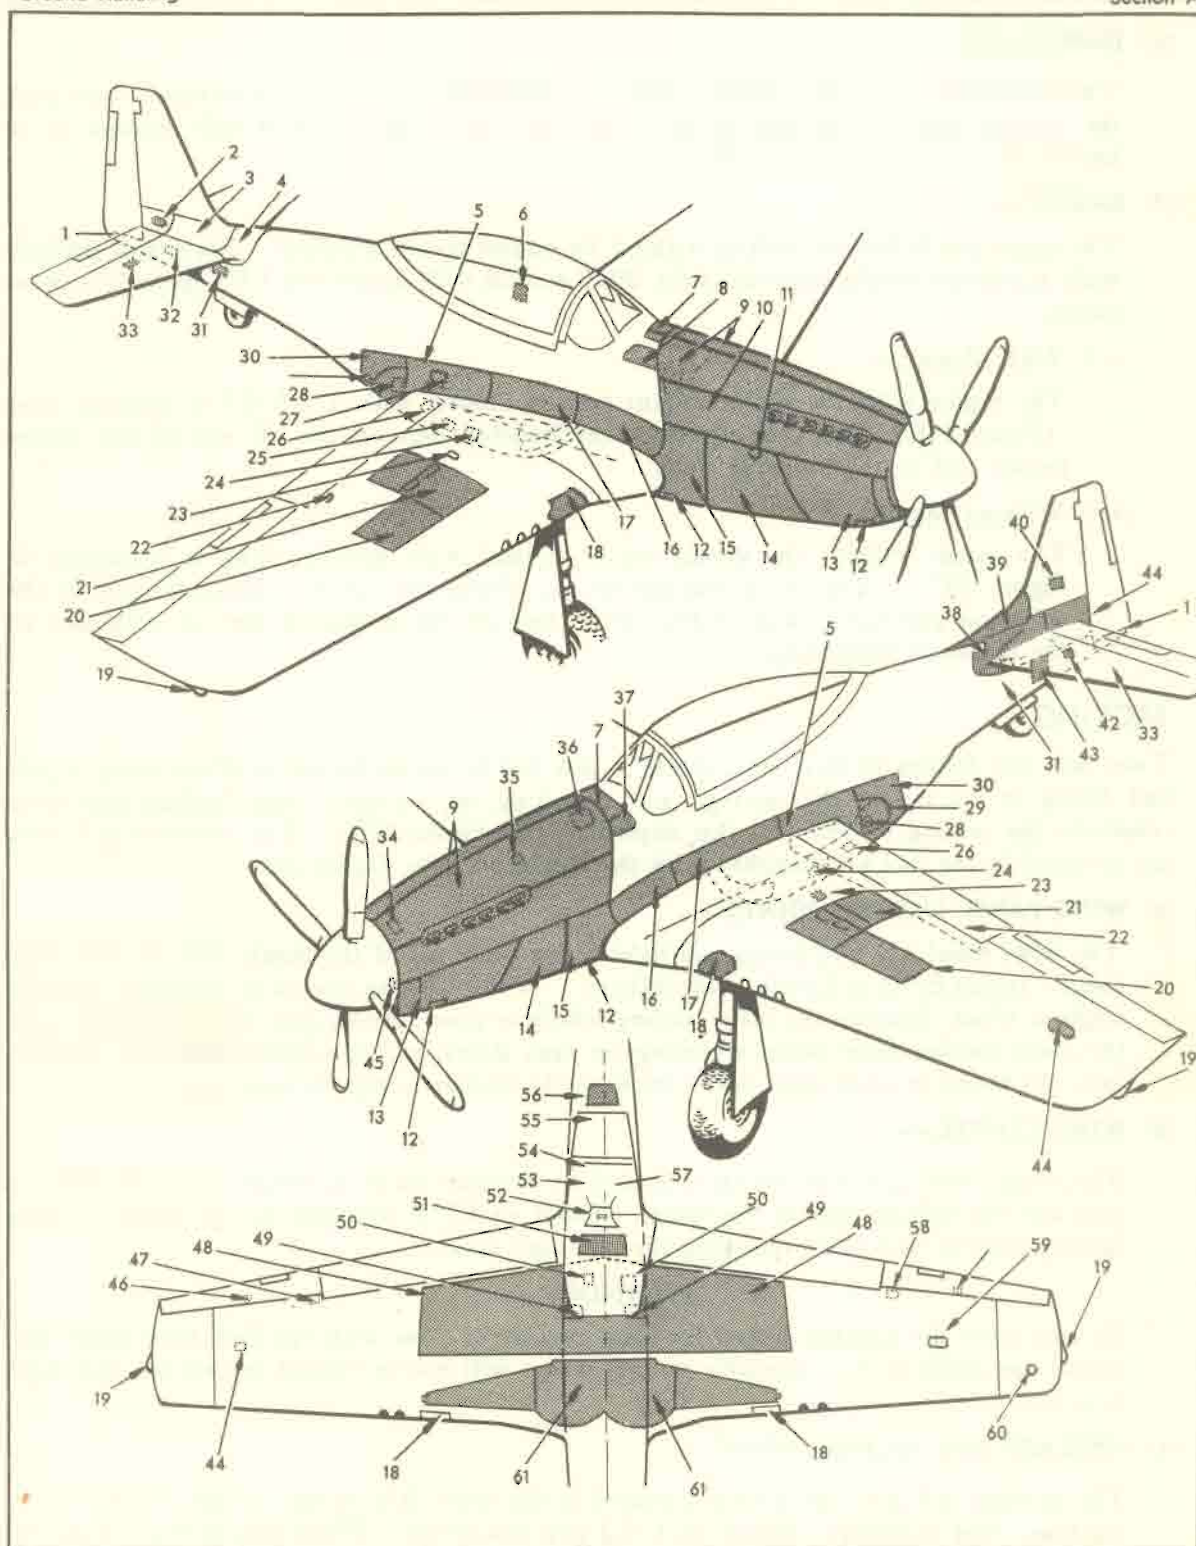

FIGURE 201—ACCESS AND INSPECTION PROVISIONS
The access provisions for inspection and maintenance are identified in Figure 201. All handling facilities are marked and identified on the airplane. A flush-type handhold and a step are located on the left side of the fuselage; wing-to-fuselage fillets constitute walkways.
**KEY TO FIGURE 201.**